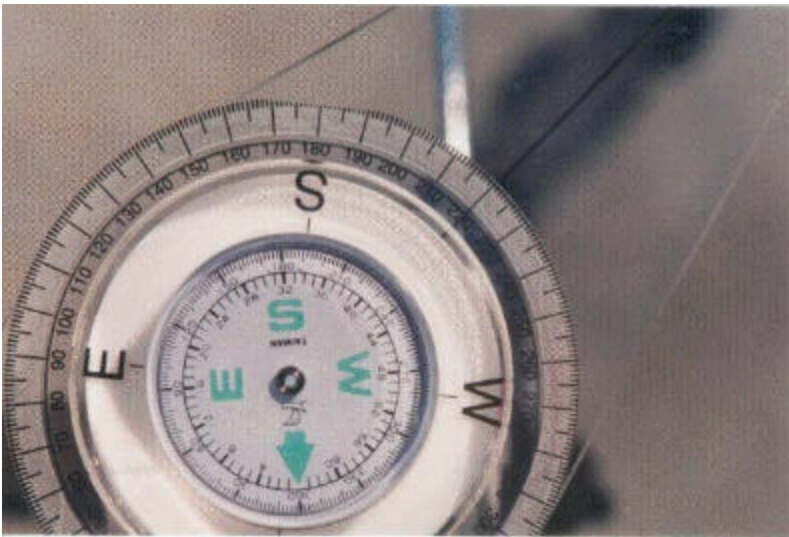

Fig. 9
- (10) Rotate the azimuth pointer away from the 180- degree mark on the azimuth dial to the azimuth degree mark given from the calculations in Step 10.
*Note!* Photo in Fig. 9 shows 220 degrees azimuth.